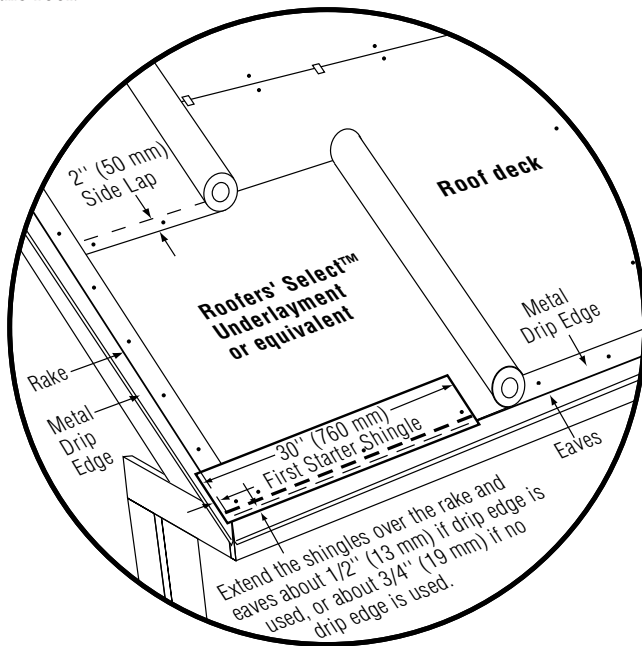

Figure 10-7: Standard slope underlayment and starter drip edge details.
3. Continue with full-length starter course shingles along the eaves (Figure 10-7).
2. Cut 5" off the length of the first starter strip and apply the resulting 31" piece at the lower left corner of the roof. This starter strip should overhang the rakes and eaves  $\frac{1}{2}$ " when drip edge is used, or  $\frac{3}{4}$ " when no drip edge is used (*Figure 10-7*).